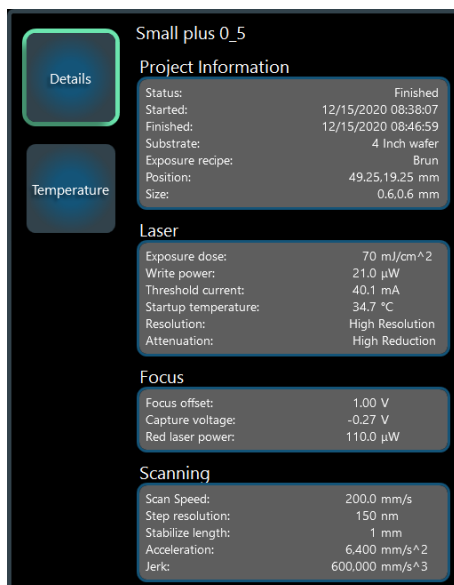

Figure 4-12 Project details window
2. Double click a project to show the project details, see **Figure 4-12** below.